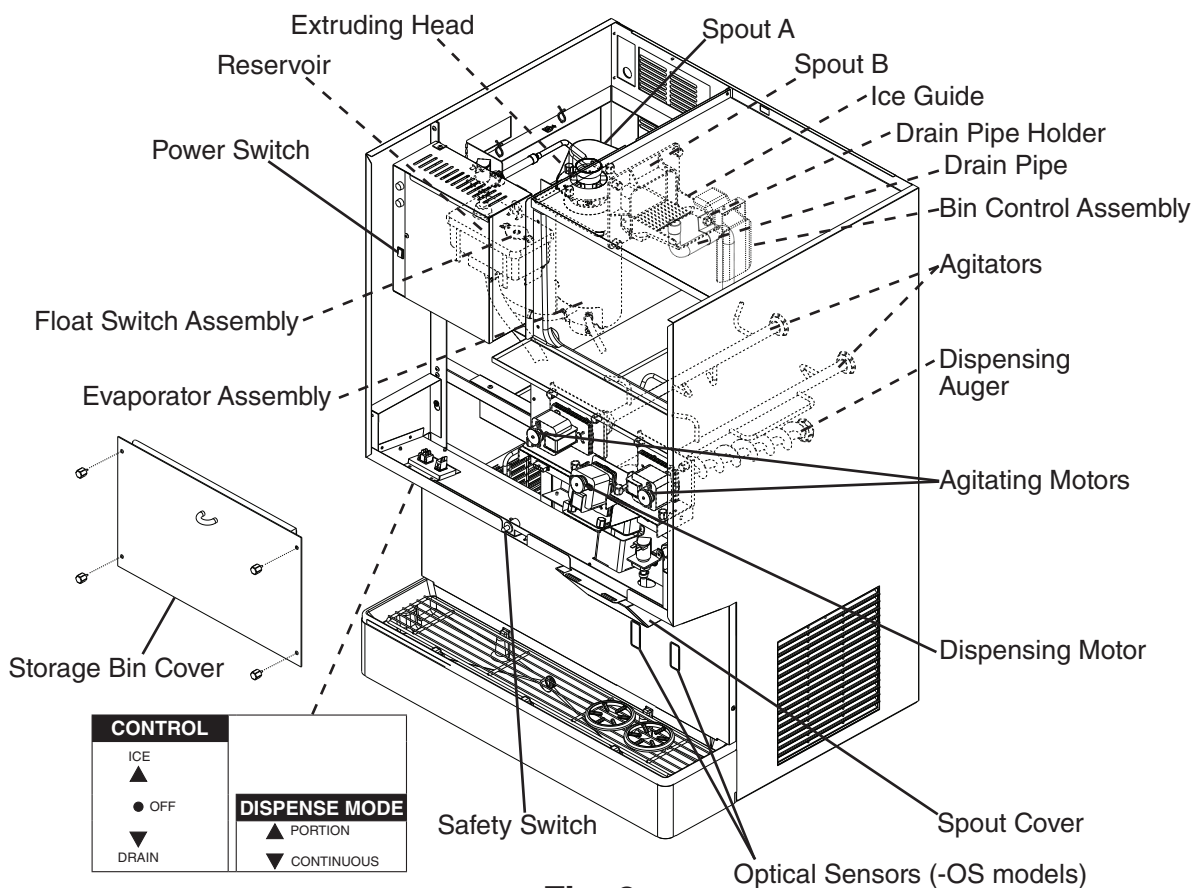
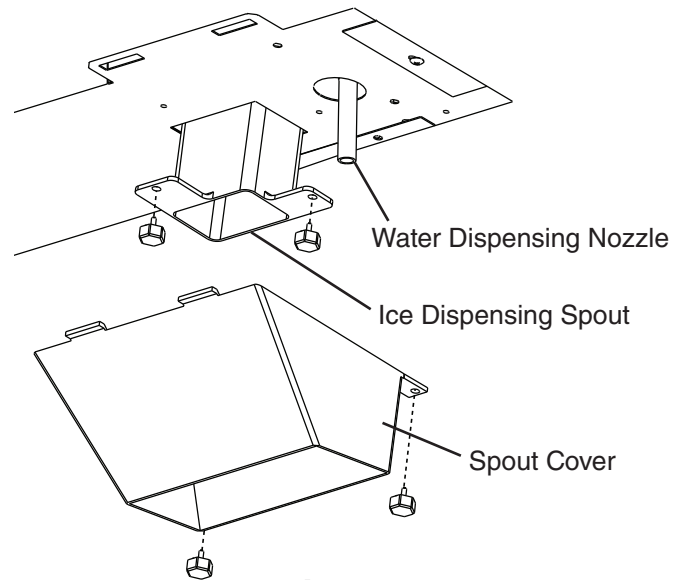

Fig. 9
Fig. 11
- 2) Move the control switch to the "OFF" position, pause momentarily, then move to the "DRAIN" position. See Fig. 9. Allow the water system to drain for 5 minutes.
- 4) Remove the motor bracket thumbscrews, first from the vertical plane and then from the horizontal plane. While holding on to the corresponding agitator or auger, move the agitating motor or the dispensing motor towards you. Remove the agitators and the dispensing auger from the storage bin. See Fig. 9.
- 8) Remove the spout cover, ice dispensing spout, and water dispensing nozzle. See Fig. 11. Also remove the ice guide, drain pipe holder, and drain pipe from the storage bin. See Fig. 9.